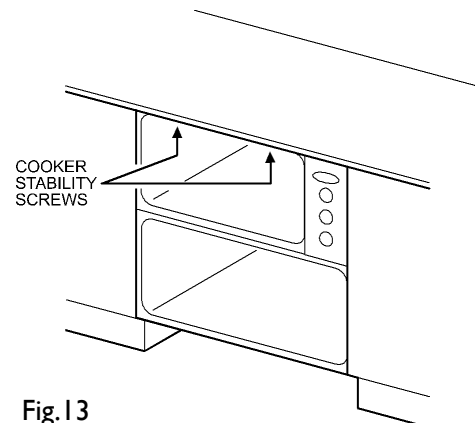

Fig. 13
- When the appliance is fully housed, screw the stability screws (supplied with the appliance) into the underside of the work surface in the positions indicated (see Fig. 13), taking care not to distort the trim. It is advisable to turn each screw alternatively to avoid damaging the trim.